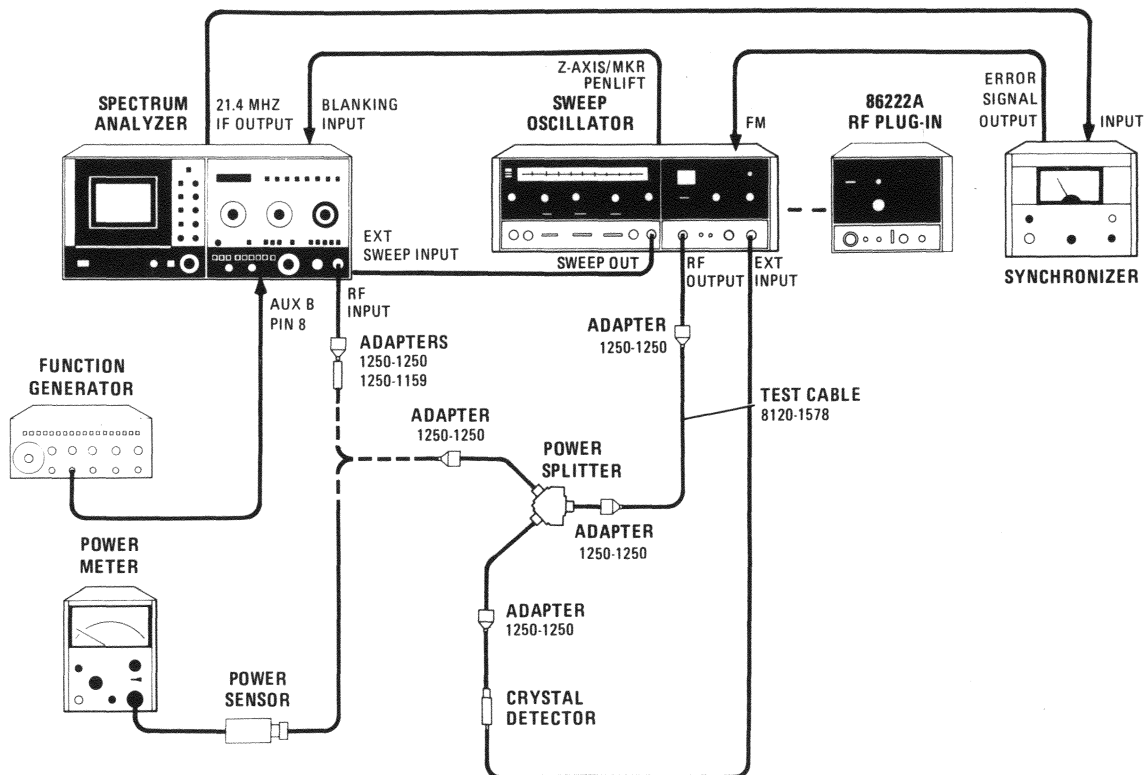

Figure 1. Frequency Response Test Setup
- b. Using .01 to 2.4 GHz source, connect equipment as shown in Figure 1. Phase lock sweep oscillator and set output power level as follows: